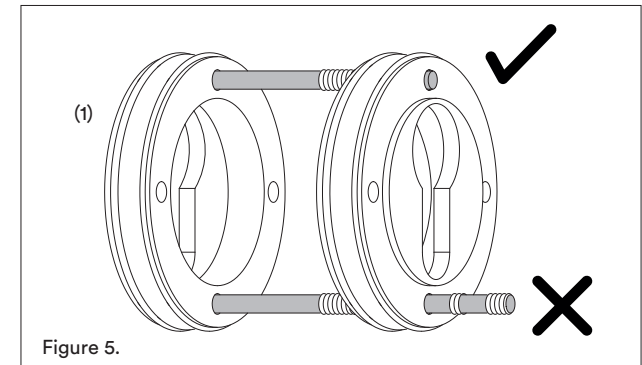

Figure 5.
- 4.2. Ensure to cut so that the screw does not protrude from the opposite rose once installed. (Figure 5)